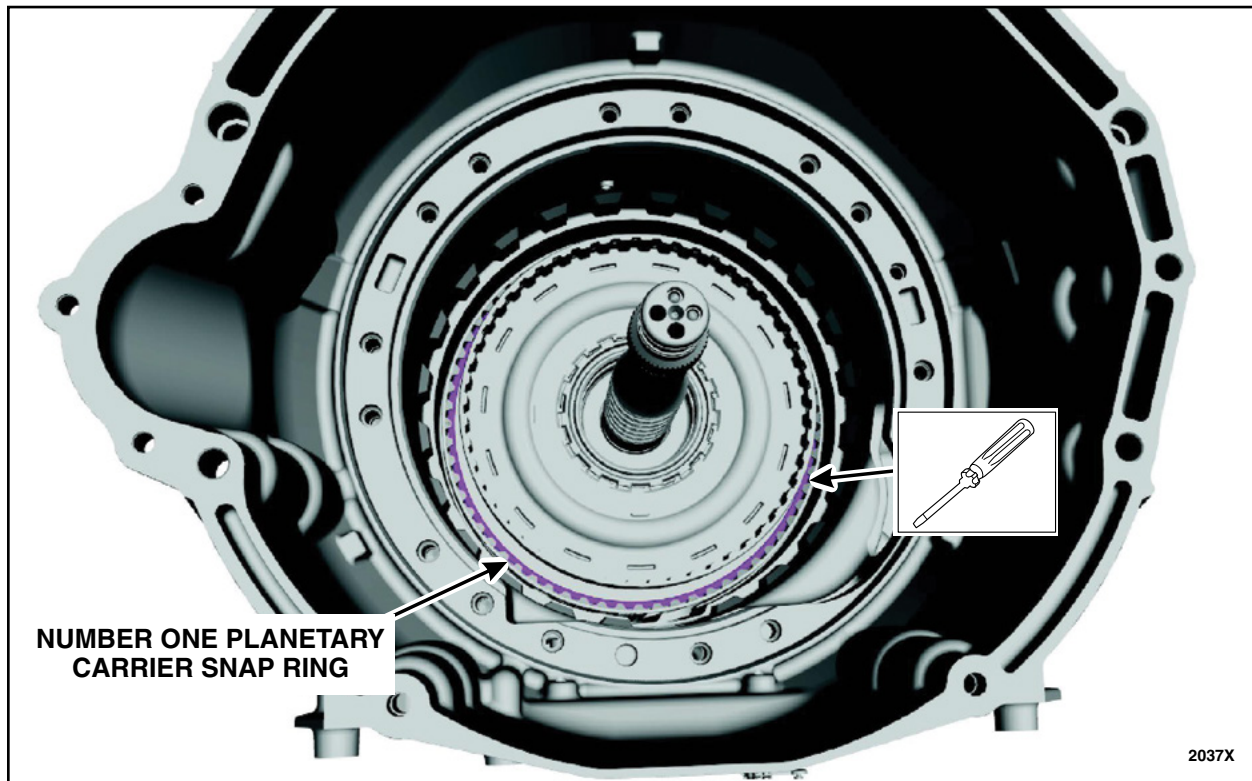

FIGURE 16
18. Using a long flat head screwdriver, install the number one planetary carrier snap ring. Be sure that the snap ring is fully seated. See Figure 16.